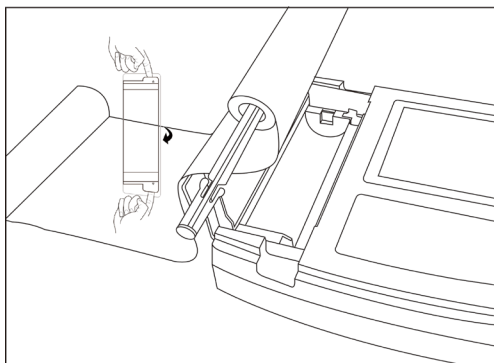

Figure 6-1 Installation of recording paper
1. As shown in Figure 6-1, use both hands to lift both sides of the paper compartment cover at the same time to open it. Take out the roller, insert it into the roll paper as shown in the figure. The paper side with grids should be faced downwards, and then install it to proper position in the paper compartment.